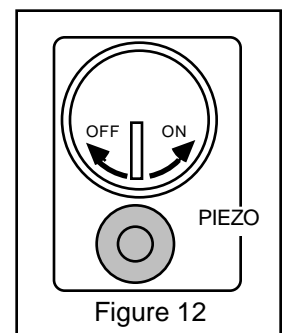

Figure 12
2. Turn the **Rear Burner Control Valve** clockwise to "OFF" (Figure 12).
7. Press **Piezo Ignitor Button** (Figure 12) to light pilot. Continue to hold in the **Primary Gas Valve Control Knob** until the Pilot flame remains lit when knob is released (approx 60 to 90 seconds). If Pilot does not remain lit, repeat steps 1. through 5. and allow more time after lighting the Pilot before releasing knob.
8. Turn the **Primary Gas Valve Control Knob** clockwise to "ON". This lights the front Ember Burner and allows gas to flow to the **Rear Burner Control Valve** (Figure 12). Control of the **Rear Burner** on and off and flame height may now be adjusted independently with the **Rear Burner Control Valve**. Turn the **Rear Burner Control Valve** counterclockwise to increase **Rear Burner** flame height or clockwise to decrease **Rear Burner** flame height.
7. Turn the **Primary Gas Valve Control Knob** clockwise to "ON". This lights the front Ember Burner and allows gas to flow to the **Rear Burner Control Valve** (Figure 12). Control of the **Rear Burner** on and off and flame height may now be adjusted independently with the **Rear Burner Control Valve**. Turn the **Rear Burner Control Valve** counterclockwise to increase **Rear Burner** flame height or clockwise to decrease **Rear Burner** flame height.